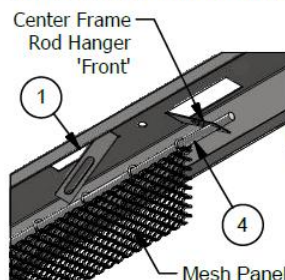

Figure 6a
1. Place the straight end of the Rod ④ into the 'front' Center Frame ① Rod Hanger. (Figure 6a)